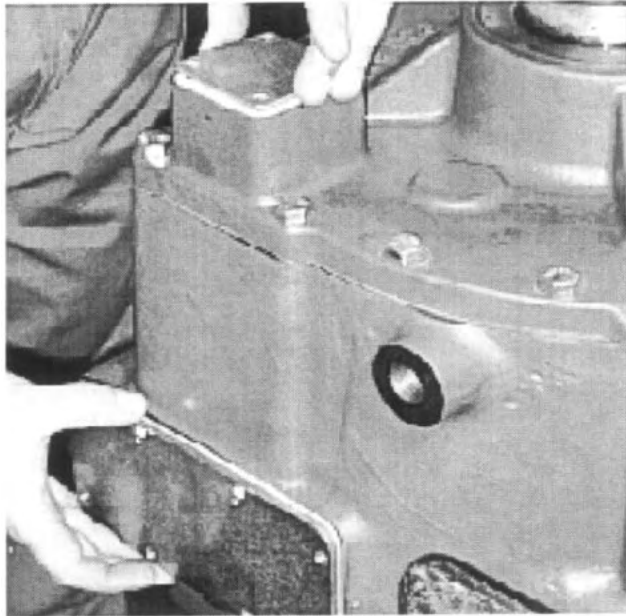

Fig. 5
7. Remove the shift shaft access cover plate and shift cylinder bore cap. See Fig. 5.